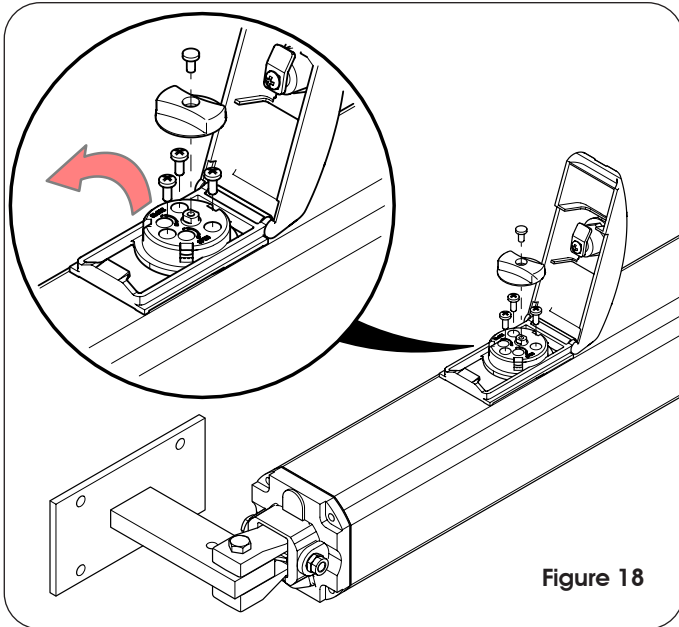

Figure 18
- Remove the red knob after removing the screw (Figure 18)
- The remove the 3 T20 security screws that are below the red knob (Figure 18)